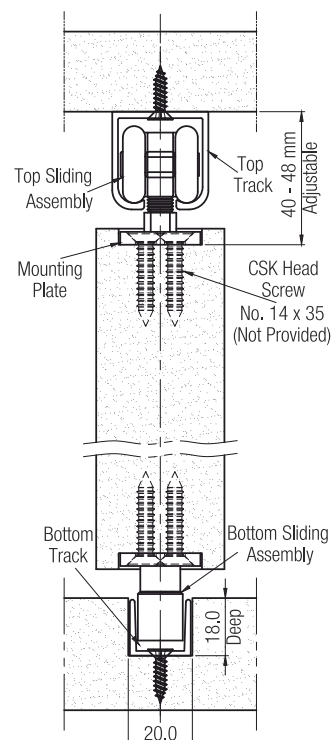

Fig.1
1. Cut a slot of 20 x 18mm deep in base as shown in fig.1 & fit the bottom track. Also fit the top track on top face in line with the bottom track.
6. The door is hung on the sliding fitting and slim nut is tightened. Height adjustment of 8mm is available. (Ref. Fig.1)